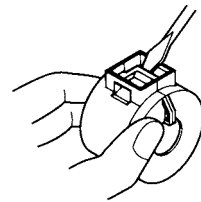

Figure 13-1.
■ The ferrite core is normally packed so it is open, as shown in Figure 13-2. If you find that the ferrite core is not open, use a pointed object to pry the plastic lock of the ferrite core apart (Figure 13-1). When you do, take care not to damage the ferrite core or the plastic lock.